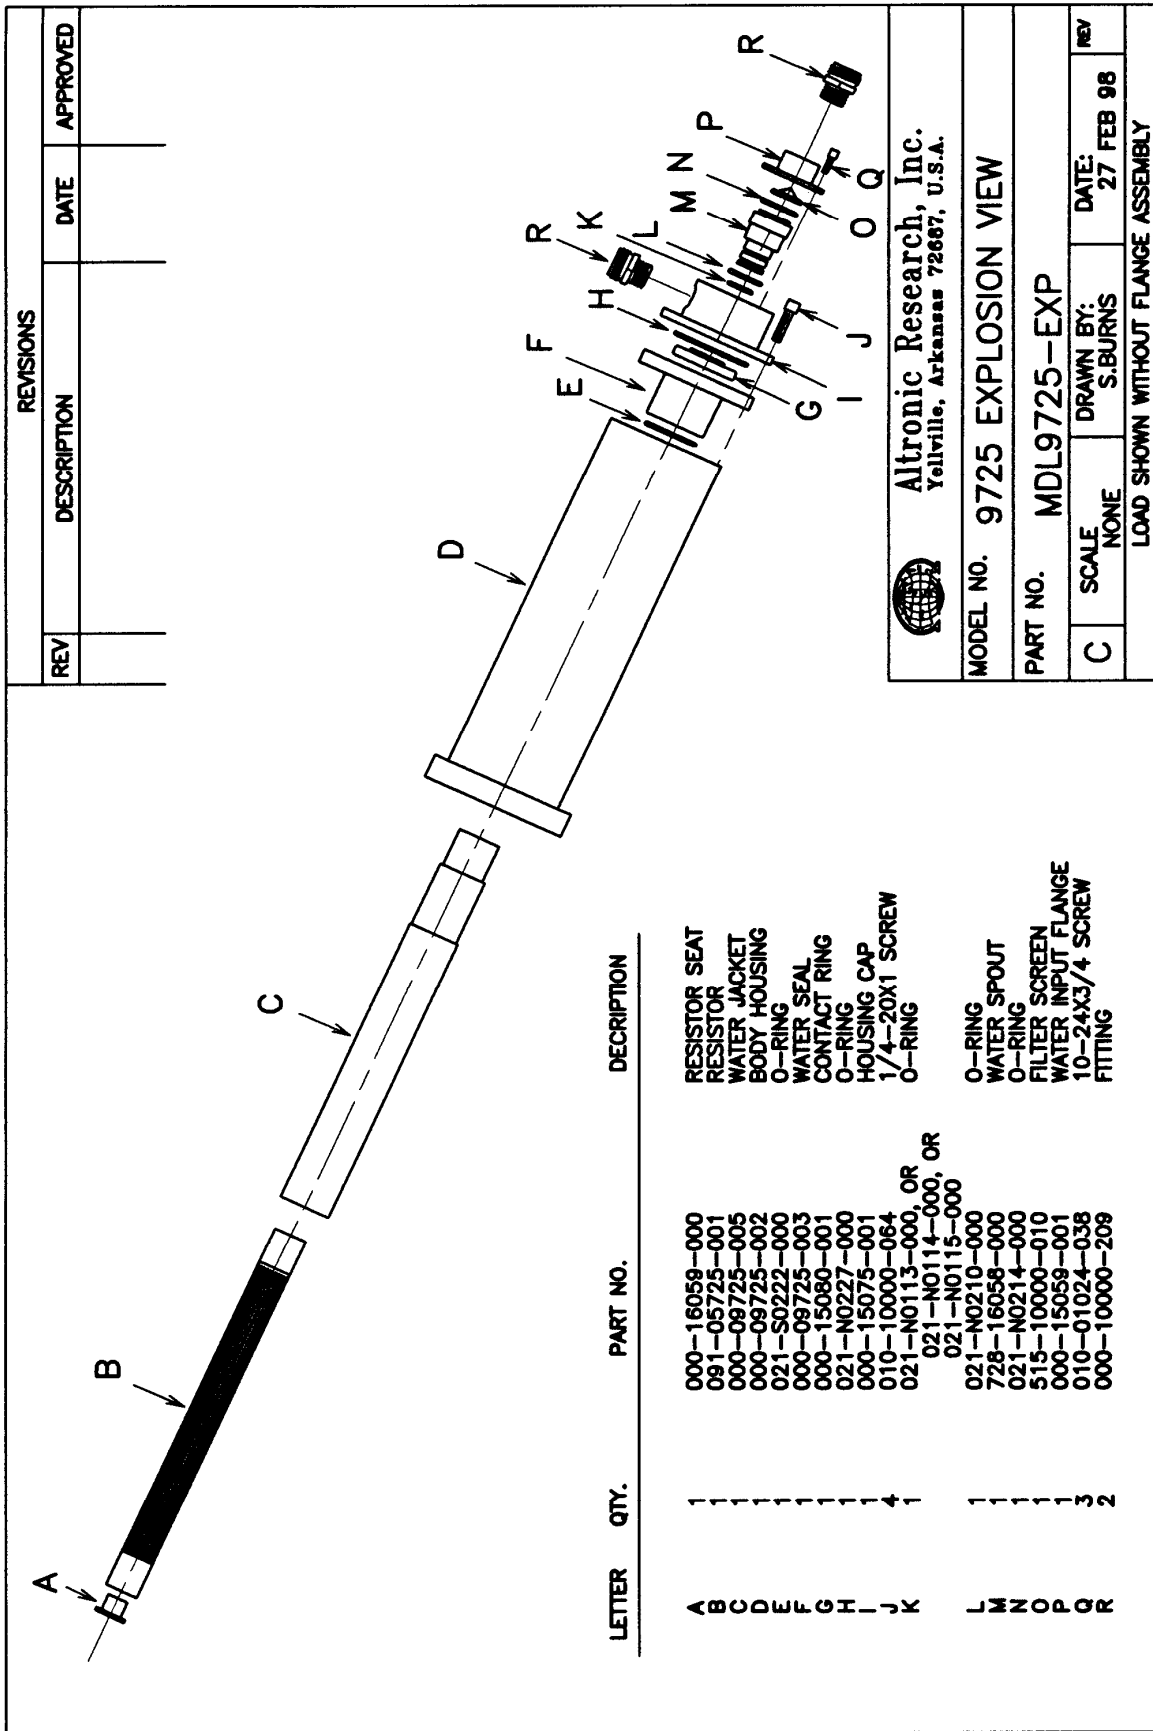
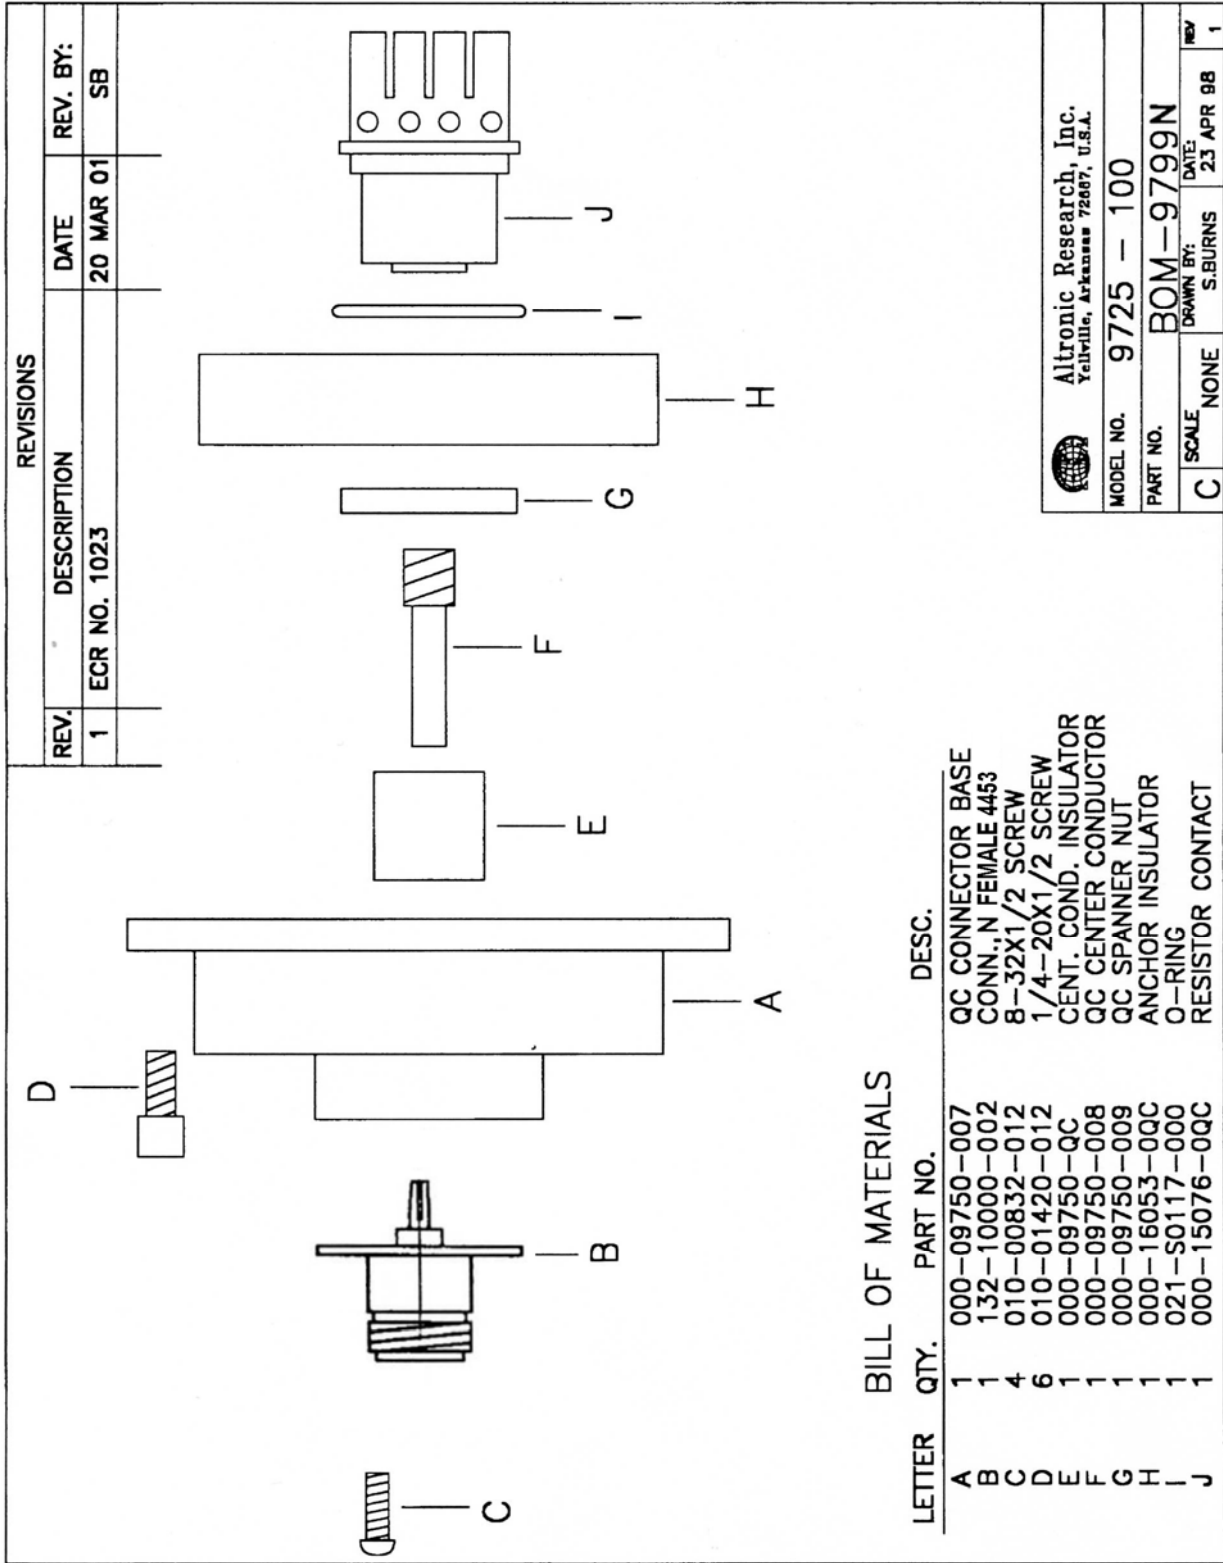

Fig. 14
Fig. 15
4. **Resistor Replacement** - (Refer to Fig. 14) To replace the resistor element, remove the three 10-24x3/8" cap screws (item Q). Remove water input assembly (items O, P, and R). Inspect filter screen for damage, replace if eroded or torn. Remove four 1/4-20x1" cap screws (item J). Remove housing cap assembly (items G, H, I, R, K, M and N). Inspect all O-rings for distortion or damage. Replace if pinched, cut, burned or no longer round in cross section. Inspect ring contact (item G) for signs of arcing or loss of silver in the area of contact with the resistor contact band. Replace if damage is noted. If
- 5. Removal of RF Input** - (Refer to Fig. 15) To remove the Q.C. input connector (item B), remove four 8-32 x 1/2 T-20 torx head screws (item C). To remove the RF input line adaptor flange (item A), remove six 1/4-20x1/2 socket head screws that secures the line adaptor flange to the load body housing (item D, Fig. 14). The RF input assembly consisting of the Q.C. center conductor, anchor insulator and front resistor contact (items E, F, G, H, I, J) will normally remain in the load body. Lift front washer (item E) off Q.C. center conductor (item F). Grasp the Q.C. center conductor by hand and attempt to pull the input assembly out of the load body using slight side to side motion while pulling. If strong resistance is encountered, it may be necessary to chill the load to allow the anchor insulator to shrink away from the load housing. This can be done by placing the load in a freezer, or packing the load in ice for 20 to 30 minutes. Once the anchor insulator has shrunk away from the load housing, the RF input assembly should be easily removed. At this point of disassembly, all components of the load can be inspected or replaced as needed. Reassembly should be done in the reverse order of sequence.